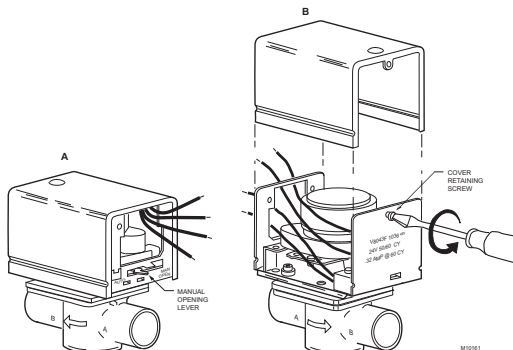

Fig. 5. Remove old powerhead from new style valve body.
3. Remove old powerhead (See Fig. 5).